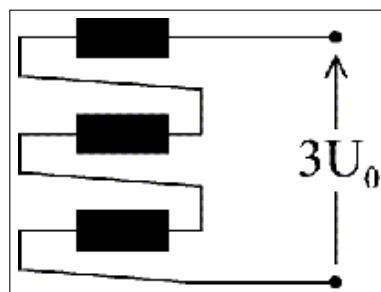

Figure 33.3.1: The open delta (O) winding connection
6. Specify the number of phases for the VT. If an open delta VT arrangement as illustrated in figure 33.3.1 is required then the number of phases should be specified as 1 and N chosen for the phase.